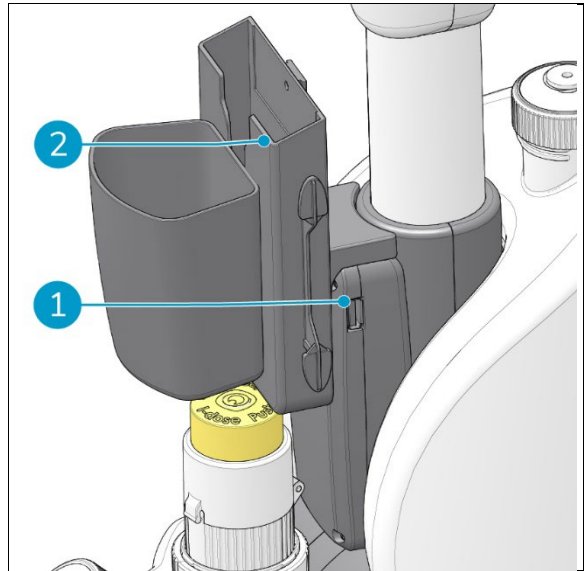

Figure 15
The IOT unit has been equipped with an USB-port (Figure 15, pos 1).
2. Put your cell phone in the specially designed cellphone holder (Figure 15, pos 2).